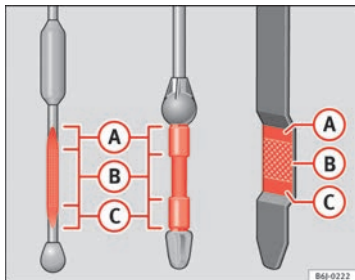

Fig. 124 Engine oil dipstick
- Then pull it out once more and check the oil level ⇒ Fig. 124. Top up with engine oil if necessary.